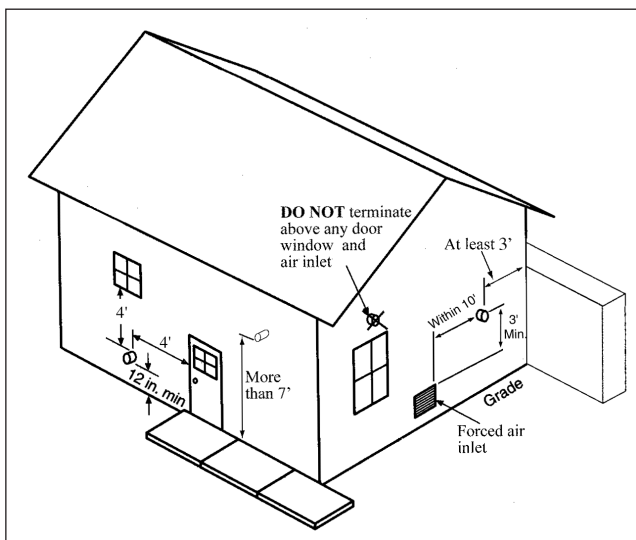

Fig. 15 - Termination Clearances of Category IV System
5. The vent termination must also maintain the following clearances; as shown in *Fig. 15 below*.
5. The vent termination must also maintain the following clearances; as shown in *Fig. 15 on page 26* .